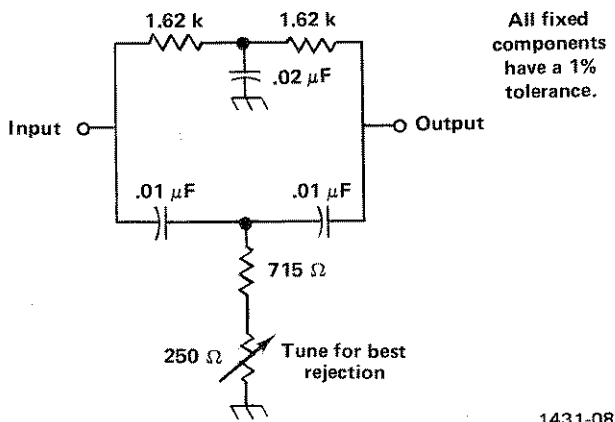

Fig. 3-1. 10 kHz Notch Filter.
6. 10 kHz Notch Filter (or Distortion Analyzer). Construct Notch Filter as shown in Fig. 3-1, for performing sine waveform upper and lower level adjustments (R150 and R170):